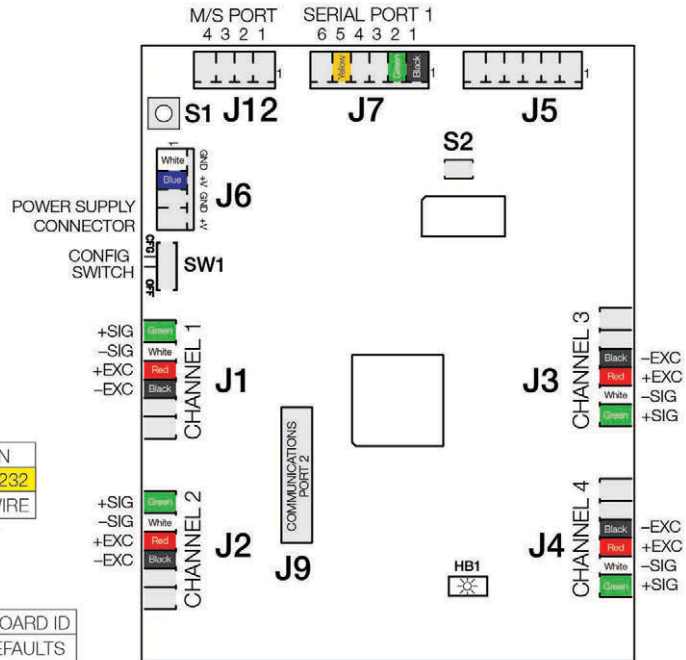

Figure 2-4. CPU Board
4. Carefully align the option card connector with J9 on the CPU board (Figure 2-4 on page 18) and the standoffs.